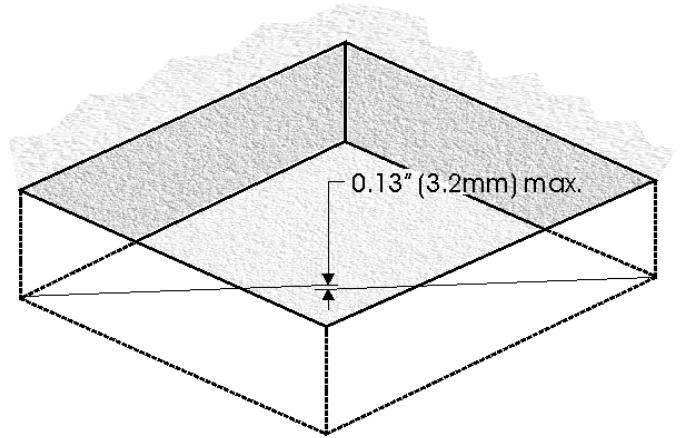

FIGURE 1
2. The **flatness** of the foundation under an individual Isolation Elements should not exceed $\pm 1/16$ inches ($\pm 1,6\text{mm}$). When installations require multiple isolation elements, the overall pit flatness should not exceed 0.13" ($\pm 3,2\text{mm}$) corner to corner. See Figure 1. Self-leveling, epoxy grout can be used to repair the surface of the foundation pit. The epoxy grout must have high compression strength and high impact resistance. Please consult the grout manufacturer to determine the best grout for the application. Steel plates placed on the bottom of the pit *are not* recommended.